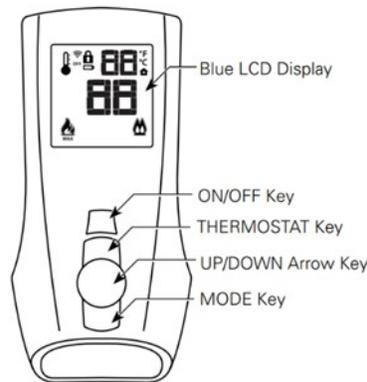
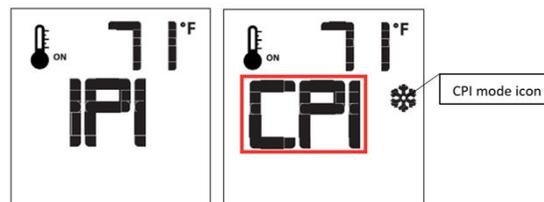

FIGURE 9
FIGURE 13
1. Insert the three (3) provided AAA batteries into the battery bay in the remote. Correctly align polarity (+/-).
3. Push the "ON" button on the remote (**Figure 9**). The control module will beep four (4) times to indicate acceptance of the remote's command. The system is now synchronized.
With the system in the “OFF” position, press the Thermostat Key and the Mode Key at the same time (Figure 9). Look at the LCD screen on the Remote to verify that a C or F is visible to the right of the Room Temperature display (Figure 11).
The IPI selection is the intended setting for the appliance operation. If remote is in CPI mode, it must be returned to the IPI mode. To turn it back the remote needs to be OFF. With the system in the OFF position, press the Mode Key (Figure 9) once to index to the CPI mode icon. Pressing the DOWN Arrow Key will return to IPI. A single “beep” will confirm the reception of the command (Figure 13).